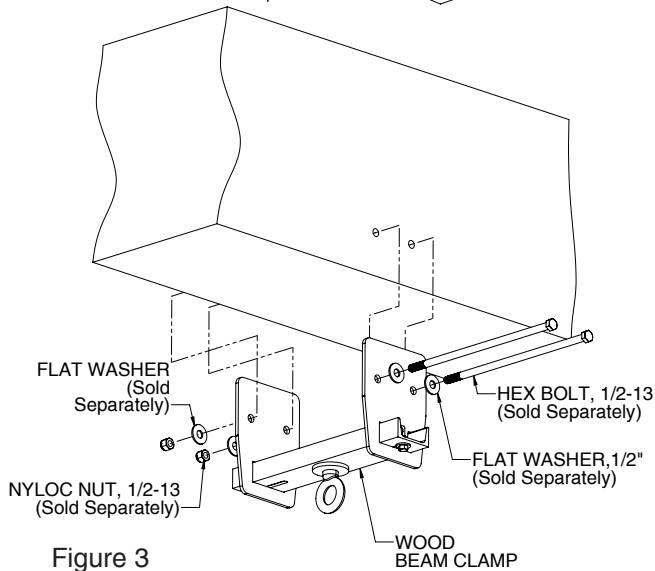

Figure 3
- Insert 1/2" dia. bolts with washers from one side until it protrudes from the opposite side plate. **Bolts should be long enough to go through the width of the wood beam and the side plates.** Secure side plate to beam with washers and nyloc nuts. (Figure 3).